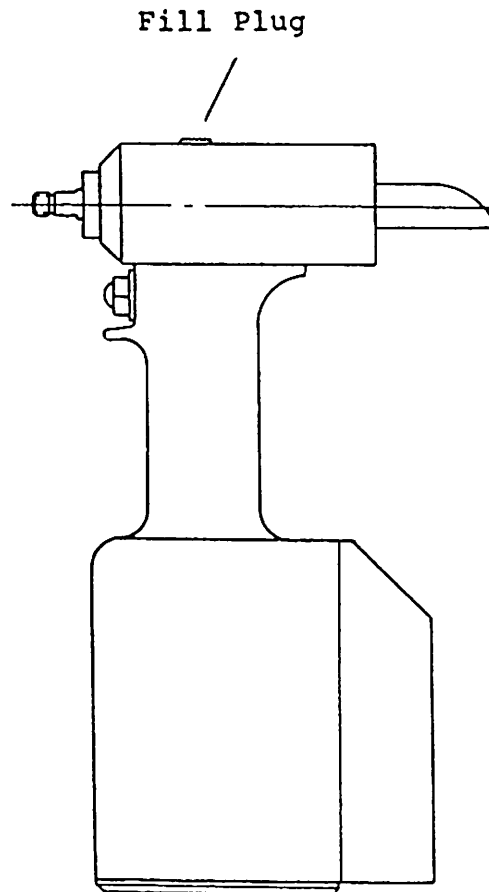

Figure 2. Fill Plug Location
3. Remove fill plug from head of tool -- see Figure 2.